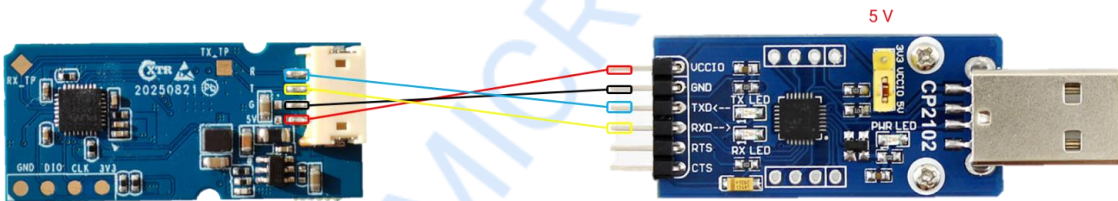

Figure 4-2 Example of connecting the CS202TE hardware to the USB serial port tool
- b) Connect the XenP202TH module to the serial port tool using a connecting cable. The connection method is shown in Figure 4-2;